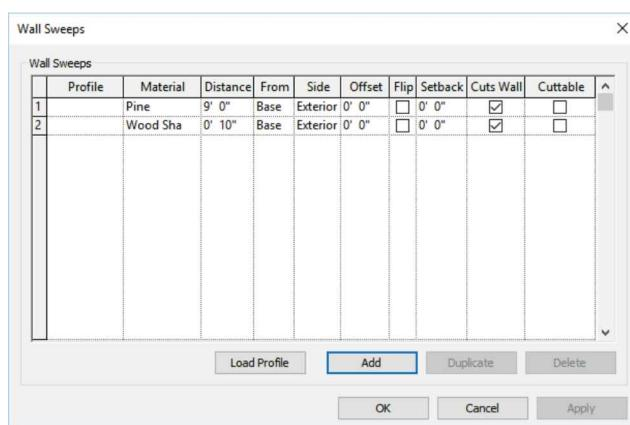

FIGURE 5-3.8 Wall Sweeps to be deleted
16. Delete both *Wall Sweeps*: click on the row number to select the row, and then click the **Delete** button (Figure 5-3.8). Click **OK** to close the dialog box when done.
Also, notice in Figure 5-3.8, this is where the material is assigned to the sweep.